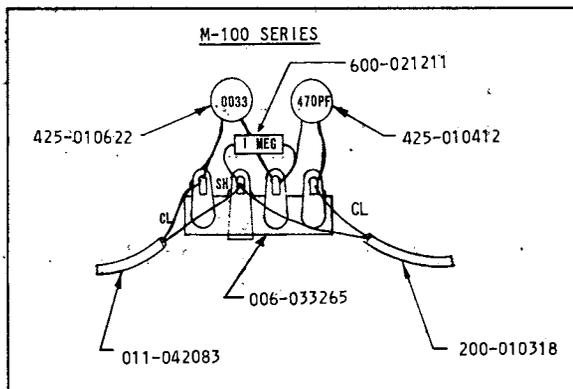

Figure A-10.
Assemble terminal strip as shown in Figure A-10, using .0033 uf capacitor, 425-010622, 470 pf capacitor, 425-010412, and 1 meg resistor, 600-021211.
- b. Solder free ends of wire and plug assembly to terminal strip assembly as shown in Figure A-10;
- c. Solder shield and conductor of shielded lead, 200-010318 to terminal strip assembly as shown in Figure A-10.